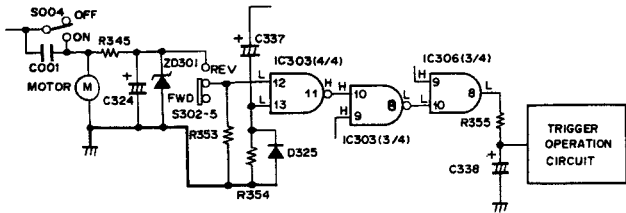

Fig. 7-11 FWD priority circuit
1. This circuit diagram is shown in Figure 7-11. When the FWD/REV selector is at the REV position, the IC304 No.12 pin goes to H level via the route S004 → R345 → S302-5.